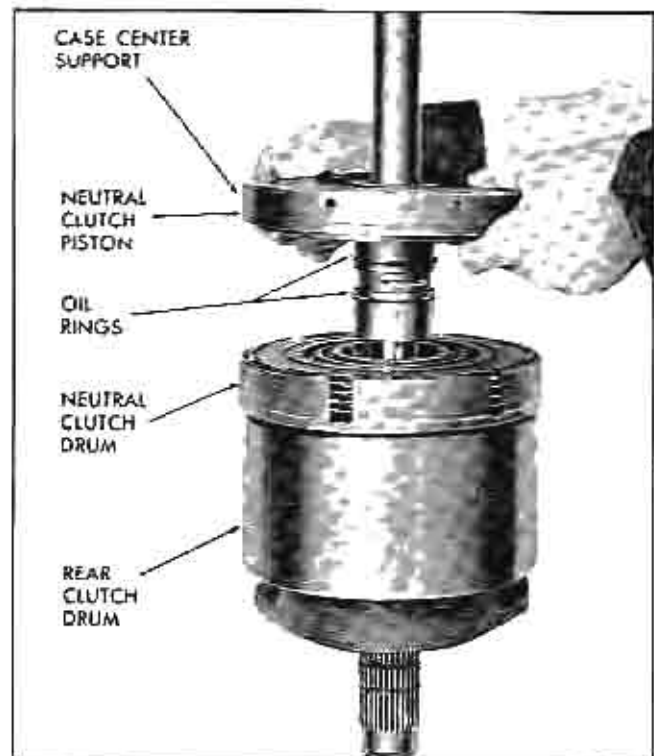

Fig. 71 Removing Case Support and Neutral Clutch Piston
3. Remove case center support and neutral clutch piston assembly from intermediate shaft (Fig. 71).
5. Remove neutral clutch drum assembly which contains five composition clutch plates, four steel clutch plates and five release springs (Fig. 71).